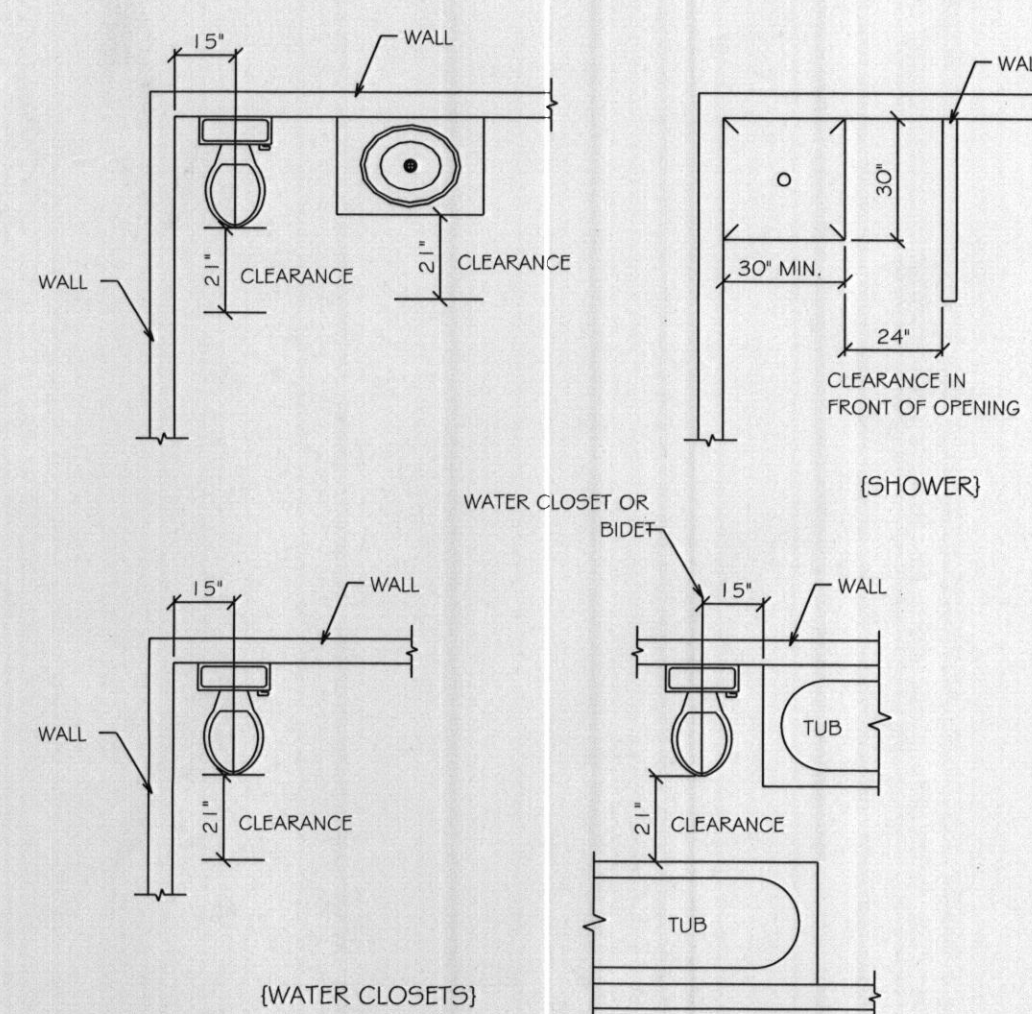

FIGURE R307.1 MINIMUM FIXTURE CLEARANCES
2. BATHROOMS SHALL HAVE A MINIMUM CEILING HEIGHT OF 6 FEET 8 INCHES AT THE CENTER OF THE FRONT CLEARANCE AREA FOR FIXTURES AS SHOWN IN FIGURE R307.1. THE CEILING HEIGHT ABOVE FIXTURES SHALL BE SUCH THAT THE FIXTURE IS CAPABLE OF BEING USED FOR ITS INTENDED PURPOSE. A SHOWER OR TUB EQUIPPED WITH A SHOWERHEAD SHALL HAVE A MINIMUM CEILING HEIGHT OF 6 FEET 8 INCHES ABOVE A MINIMUM AREA 30 INCHES BY 30 INCHES AT THE SHOWERHEAD.